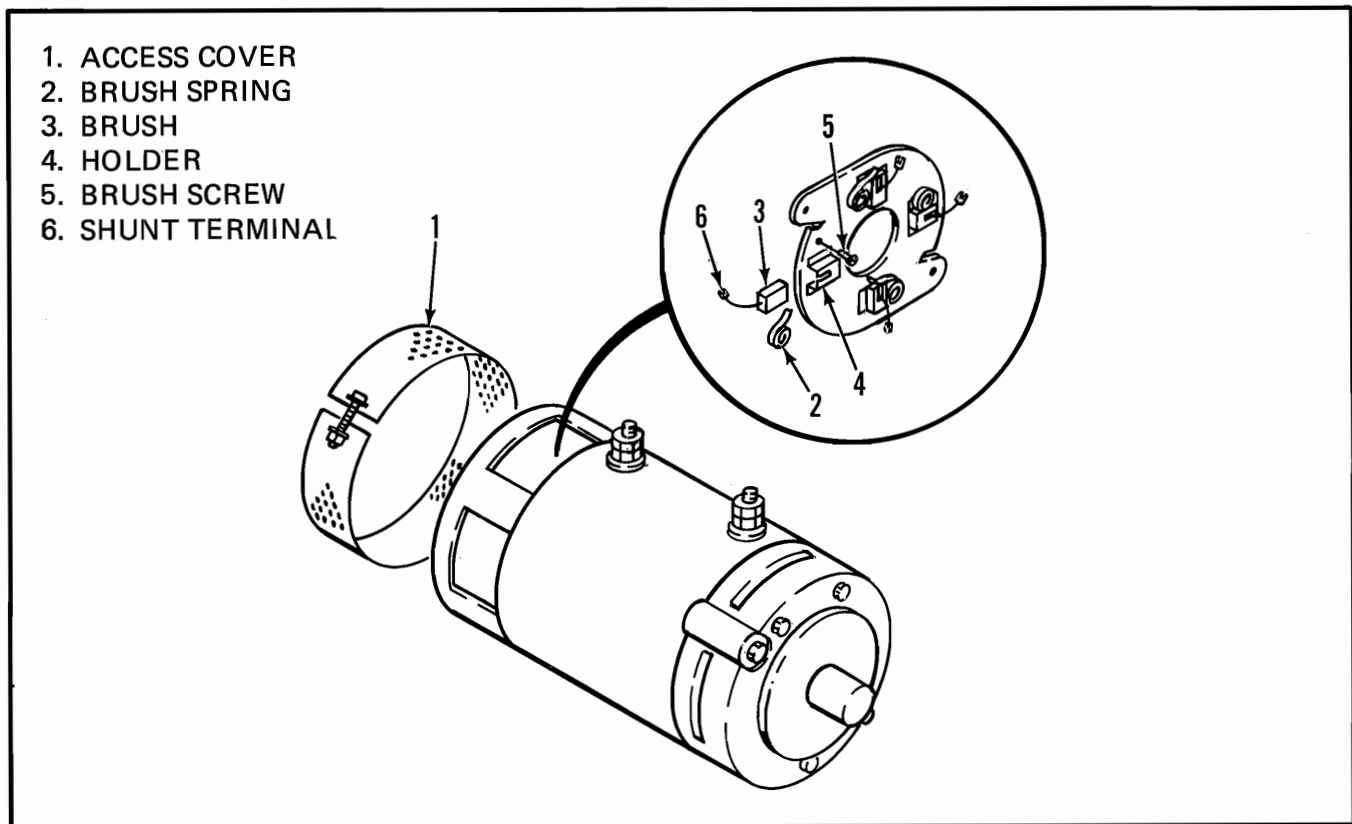

Figure 5-16. Electric Motor
(1) Refer to Figure 5-16 and remove the brush access cover (1).
(2) Lift the brush spring (2) end upwards to slide brush (3) out of the holder (4).